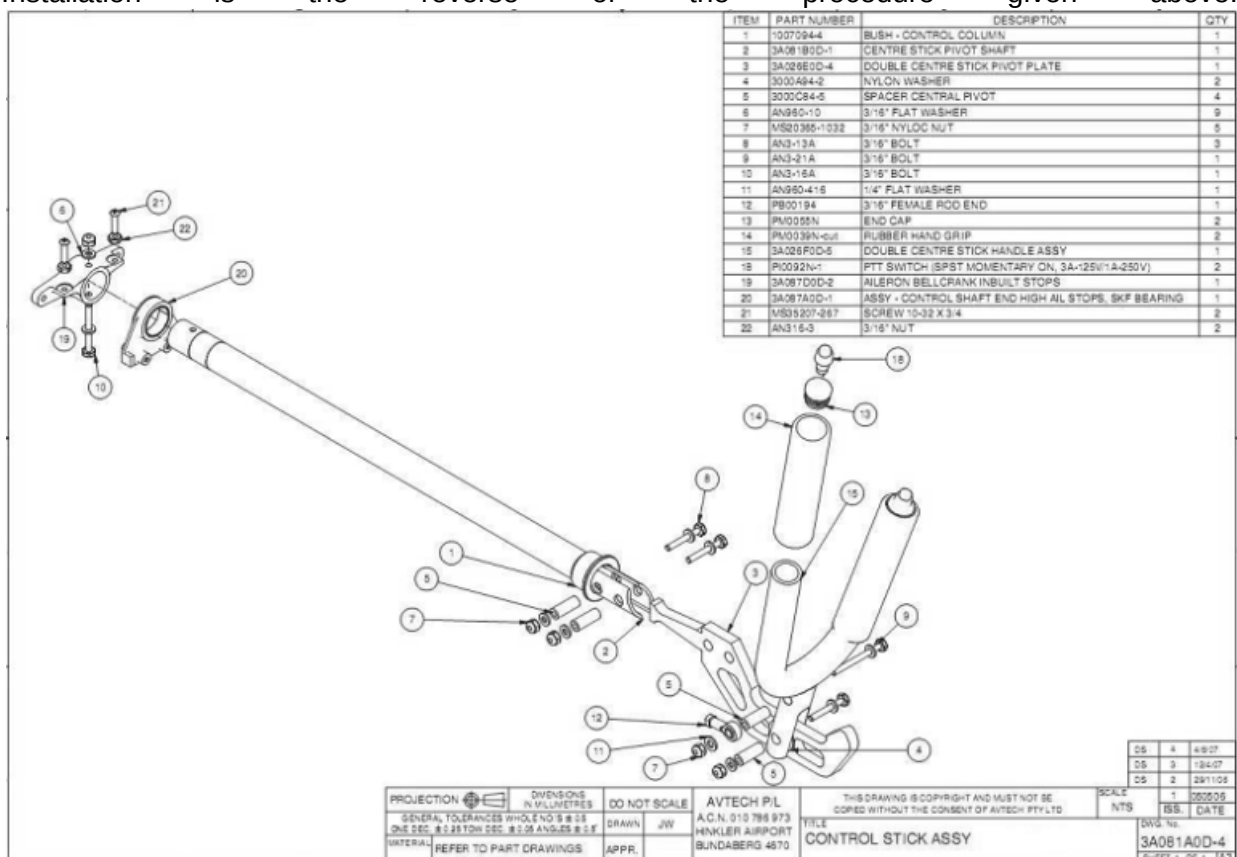

Figure 56 – Control Column Assy – Type 3
- Use the Aileron Control Stop adjustment on the central control shaft to adjust the total aileron movement (i.e. UP travel) and use cable adjustment as previously described to proportion UP and DOWN travel. Note that while it is possible to adjust the Type 3 aileron stops using the eccentrics using the limit screws shown in Figure 56 is easier.